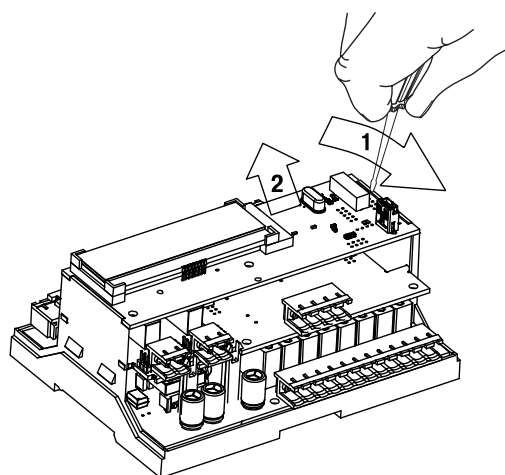

Fig. F.2 Top PCB removing
2. Lever the top PCB from the side of the USB connector with a screwdriver and carefully release it from the pin connectors of the middle PCB (Fig. F.2, G.1a).